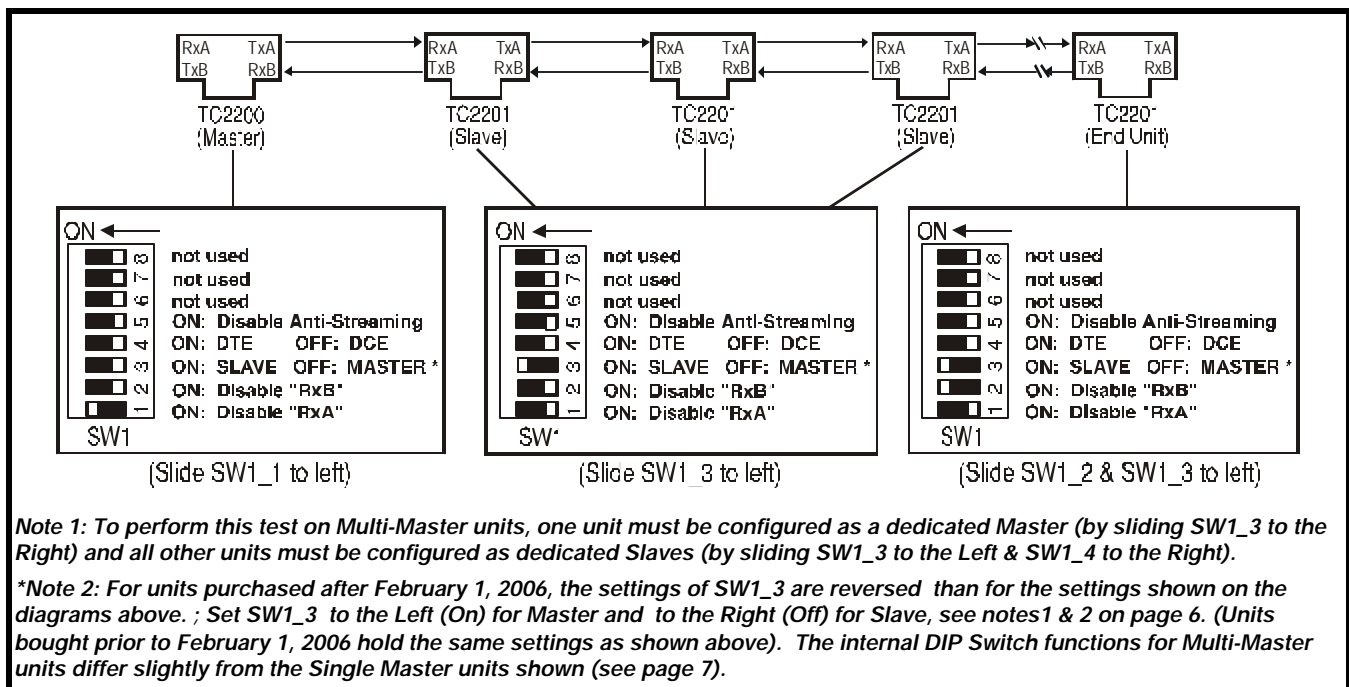

Figure 16. Bench Test Connection Diagram
1. Set up the bench test as shown in Figure 16. At the Master unit, turn on the "SIG-GEN" by sliding SW2\_3 (on the front panel) downward. The "BRD-1" and "BRD-2" LEDs on the TC2200 (Master) should start blinking. Likewise, the "BRD-1" and "BRD-2" LEDs on all of the TC2201 (Slave) units should also blink, indicating receipt of the Master's broadcast signal.